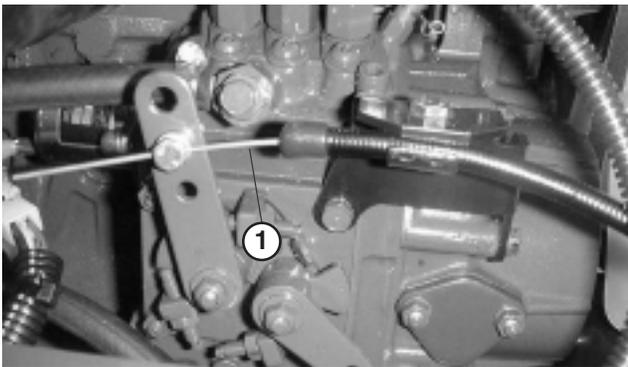

**Figure 36**
1. Condition and Tension – Check condition and tension of belts (Fig. 36) after every 100 operating hours.